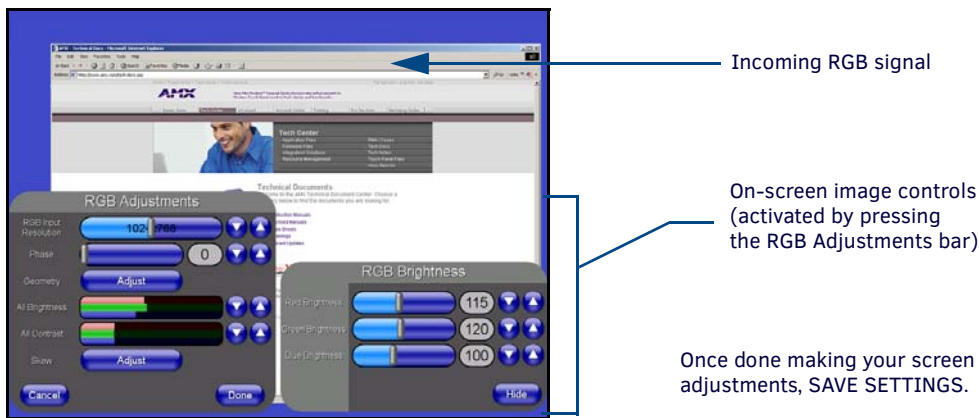

FIG. 110 Full Screen Edit Mode - showing controls
2. Press this grey bar to maximize the *RGB Adjustments* popup menu (FIG. 110) which provides you with much more accurate adjustments of the incoming signal properties. This menu can be dragged across the screen for a better view of the underlying image. Once you exit this menu, the grey bar is positioned back onto its original location.